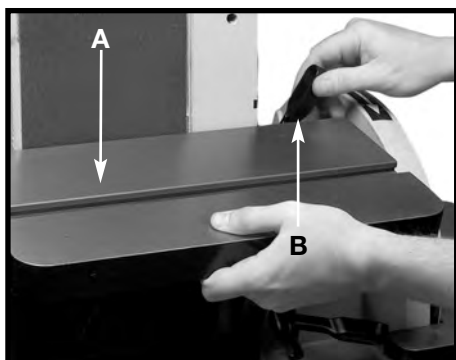
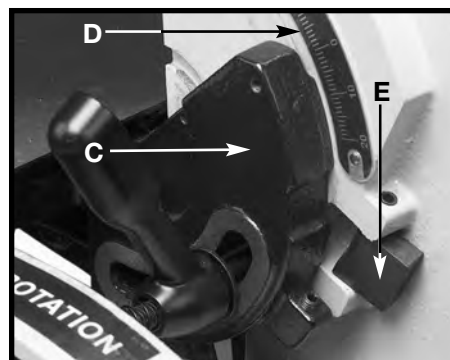

Fig. 25
Fig. 26
The table (A) can be tilted 45 degrees down (Fig. 25). To tilt the table, loosen the lock handle (B), tilt the table to the desired angle, and tighten the lock handle (B). The degree of tilt is noted on the pointer and scale.
NOTE: When tilting the table down (Fig. 25), rotate the stop (E) Fig. 26 out of the way.